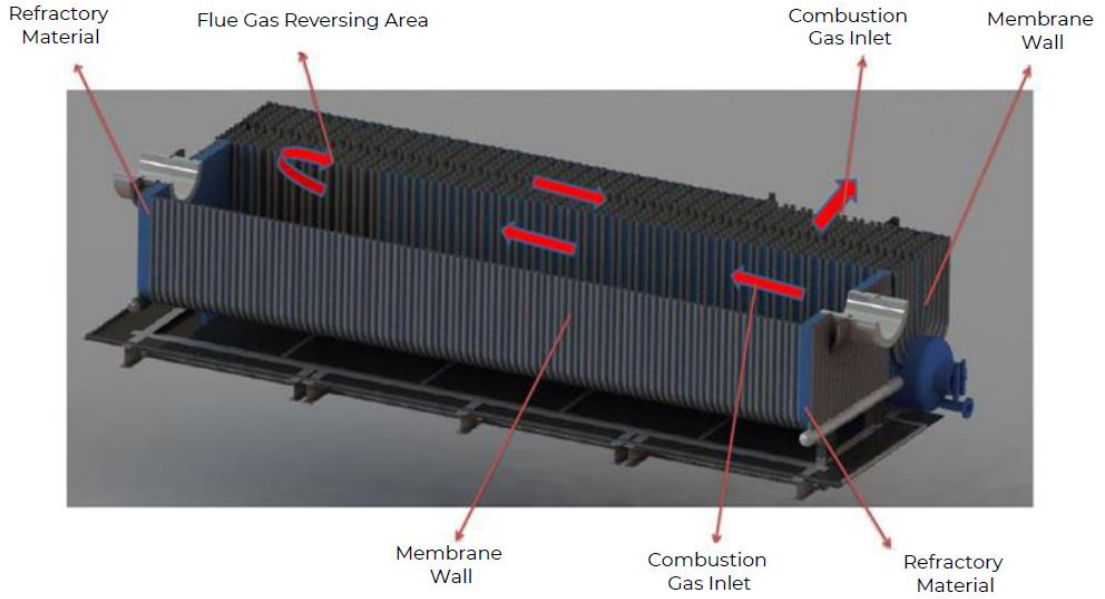

Figure 2.1. Illustration of Flue Gas Direction in Cross-Sectional View of Boiler
- All tubes in the furnace are membrane finned, except those, in the area where the gas leaves the furnace and enters in the convection section. The outboard row in the convection section is constructed by membrane finned tubes, except, in the area where the flue gas leaves the boiler. Special design membrane tube walls are welded by automatic welding machine and some of them are bent automatically in bending machine line, too. Membrane finned construction is utilized with a fin to tube weld on both inner and outer side. Membrane tube walls are positioned to canalize flue gas direction, starting from boiler connection flange to flue gas exit flange. They are located at all outer walls of the boiler, inside of the furnace (except flue gas reversing area from 1st pass to 2nd pass), outer walls of all 2nd pass area (except tube bundles that means steam drum and mud drum connecting tubes). Detailed flue gas flow direction is illustrated in figure 2.1